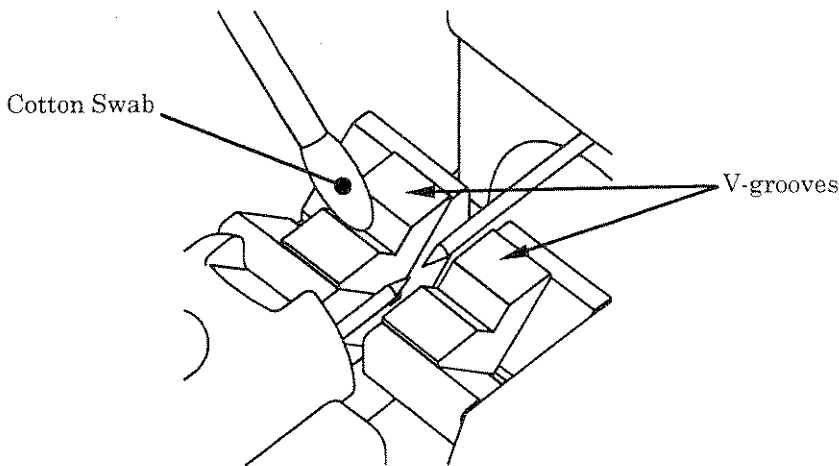

Fig. 5-1. Cleaning V-grooves with Cotton Swab
- (1) Open the wind protector and fiber clamps.
- (2) Clean the bottom of the V-groove with an alcohol-impregnated thin cotton swab as shown in Fig. 5-1. Remove excess alcohol from the V-groove with a clean dry swab.